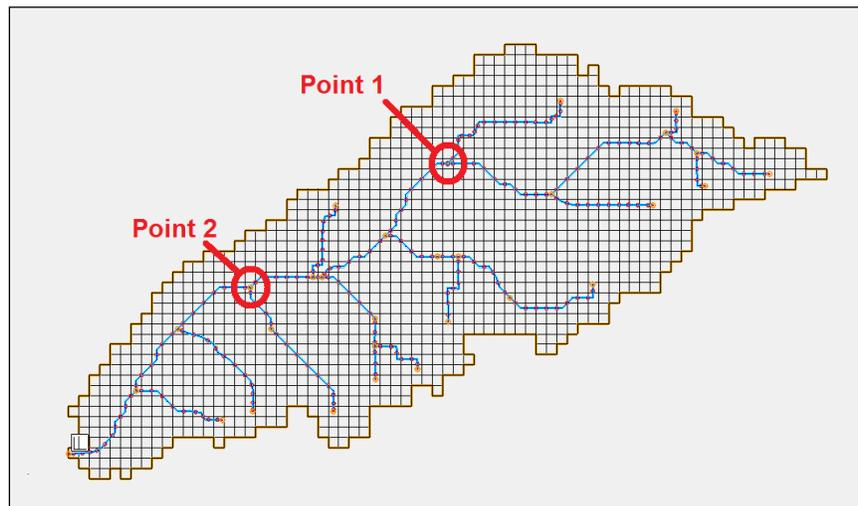

Figure 8 Locations of two additional observation points
5. Double-click on Point 1 as shown in Figure 8 to bring up the *Properties* dialog.